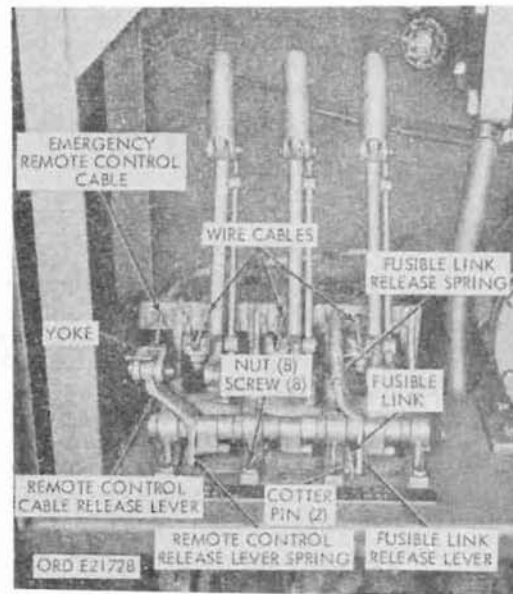
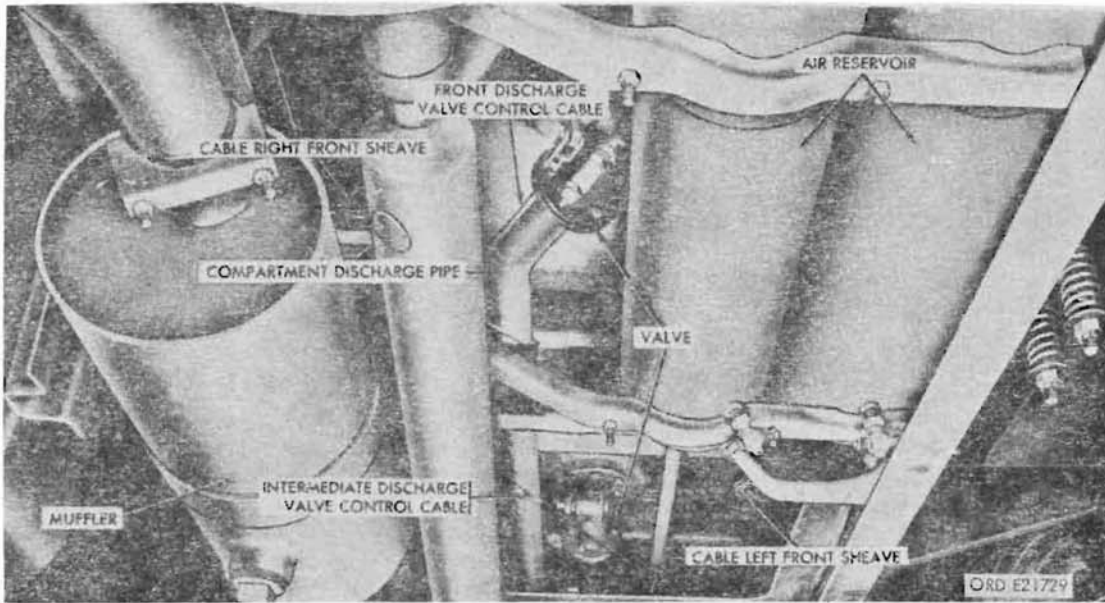

Figure 293. Discharge valve control assembly
Figure 294. Discharge valve and cables
- (1) **Removal.** Remove discharge valve wire cables from each discharge valve operating lever (fig. 293). Loosen hex-nut securing emergency remote control cable yoke and remove remote control cable from yoke. Remove eight safety nuts and screws holding discharge valve control to equipment compartment floor, and remove control.
- (2) **Installation.** Install valve control in equipment compartment with two hex-head screws and safety nuts for each of four discharge valve-control bearing brackets. Install end of remote control wire cable in remote-control cable bolt on remote-control cable yoke, and secure cable in yoke by tightening hex-nut on bolt. Secure ends of discharge valve wire cables to cable clamps on control-valve operating levers.
b. Discharge Valve Control Fusible Link (Fig. 293).
- (1) **Removal.** Disengage remote-control cable release lever spring from underside of remote-control cable-release lever (fig. 293). Disengage fusible-link release spring from fusible link release lever. Remove cotter pins securing fusible link to bearing bracket and fusible link release lever, and remove link.
- (2) **Installation.** Position one end of fusible link on bearing bracket and secure with cotter pin. Position other end of link on fusible link release lever and secure with cotter pin. Connect end of fusible link release lever. Connect end of the remote-control cable release lever spring to cable release lever.
- (1) Removal. Disconnect discharge valve wire cable (e below) from discharge valves. Remove six safety nuts and screws holding valve to compartment discharge pipe (fig. 294). Remove six safety nuts and screws holding valve to tank compartment and remove valve from compartment. Remove and discard discharge-valve-to-pipe and discharge-valve-to-tank gaskets from valve.
- (2) Installation. Position a new discharge-valve-to-tank gasket on valve and install valve on tank compartment with six hex-head screws and safety nuts. Position a new discharge-valve-to-pipe gasket on valve and connect discharge pipe to valve with six hex-head screws and safety nuts. Connect discharge valve wire cable (e below) to valves (fig. 294).
- (1) Removal. Loosen nut securing valve cable bolt on discharge valve control operating levers (fig. 293) and remove wire cable from discharge valve controls. Loosen nut securing the valve cable bolt on discharge valve operating lever yoke and remove wire cable from discharge valves (fig. 294). Remove wire cables from truck frame and body.
- (2) Installation. Install wire cables in truck body extending from discharge valve controls in equipment compartment down through truck frame to discharge valves on bottom of rear compartment.